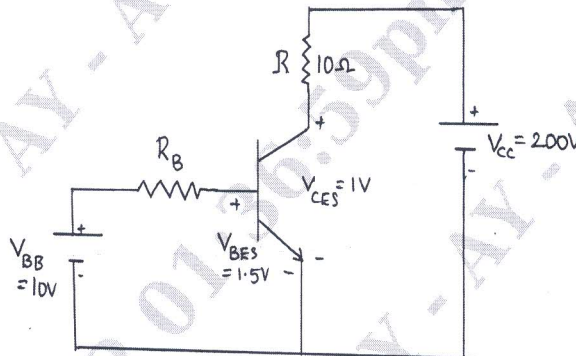

Fig Q2(c)
- c. A transistor switch of Fig Q2(c) has β in the rang of 8 to 40. Calculate :